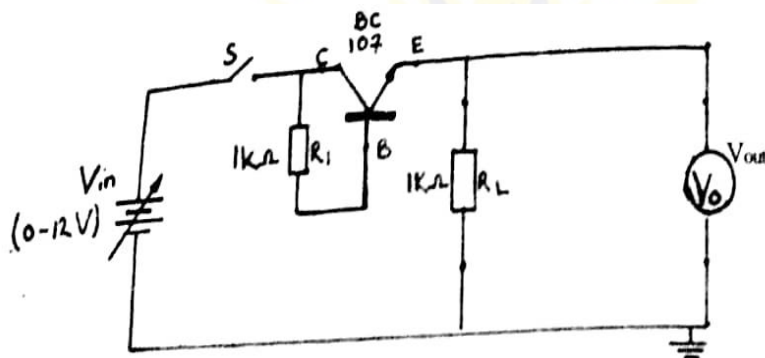

Fig. 1
- Connect the circuit diagram as shown in Figure 1.